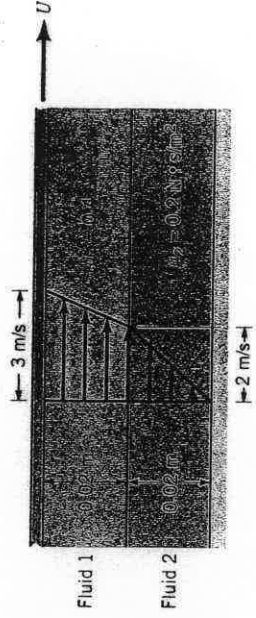

FIGURE P1.45
1.45 As shown in Video V1.4, the "no-slip" condition means that a fluid "sticks" to a solid surface. This is true for both fixed and moving surfaces. Let two layers of fluid be dragged along by the motion of an upper plate as shown in Fig. P1.45. The bottom plate is stationary. The top fluid puts a shear stress on the upper plate, and the lower fluid puts a shear stress on the bottom plate. Determine the ratio of these two shear stresses.